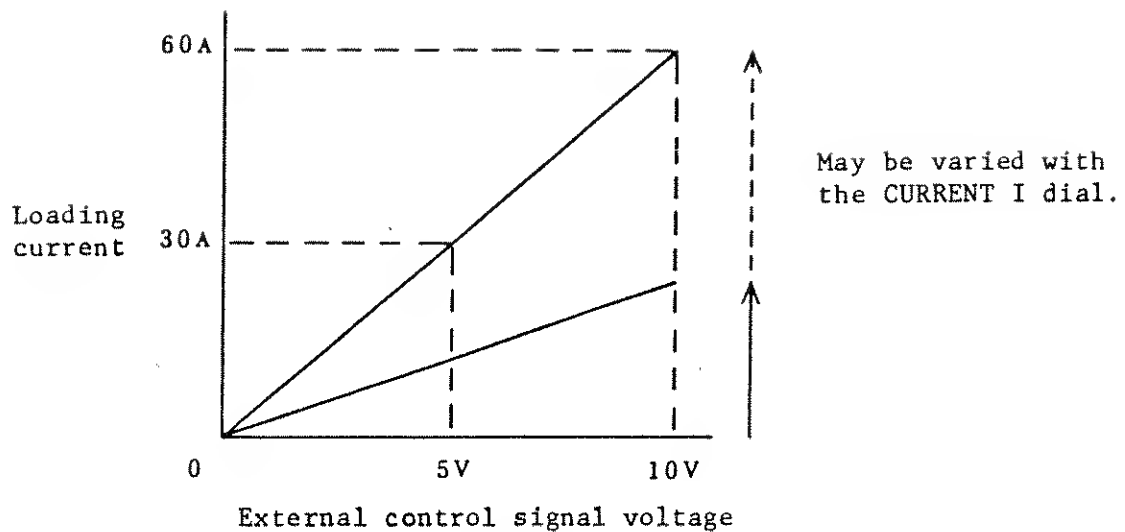

Figure 2-13-2
4. The relation between control signal voltage and loading current is adjusted such that the corresponding current to an input of 10 V, will be 60 A, as indicated in Fig. 2-13-2. The current value may be decreased with the CURRENT I dial. The control signal voltage should not exceed 10 V.